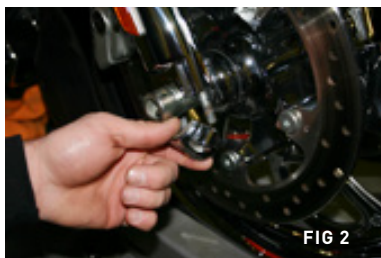

FIG 2
3. Remove factory axle clamp/fork bottom. **(Fig 2)**